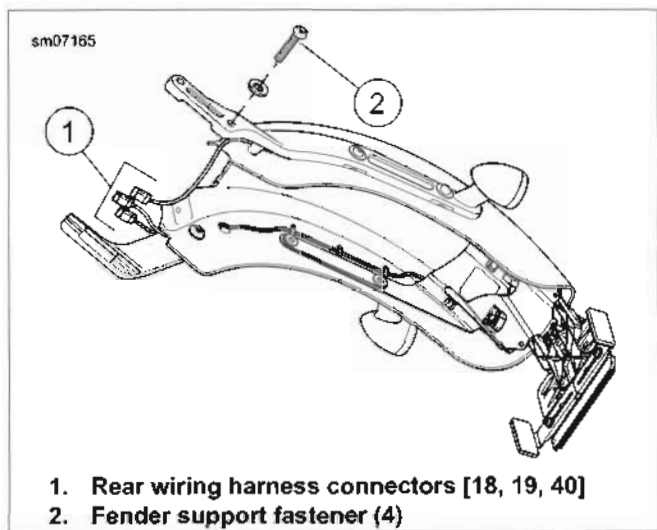

Figure 2-114. Rear Fender
3. See Figure 2-114. Disconnect all three rear wiring harness connectors [18, 19, 40] (1).
5. Remove fender support fasteners (2) and pull rear fender assembly away from motorcycle.
1. See Figure 2-114. Carefully place the fender into position.
2. Install fender support fasteners (2). Tighten fasteners to an initial torque of 30-35 ft-lbs (40.7-47.5 Nm). Loosen fasteners and final-tighten to 38-42 ft-lbs (51.5-56.9 Nm).
4. Connect all three rear wiring harness connectors [18, 19, 40] (1).